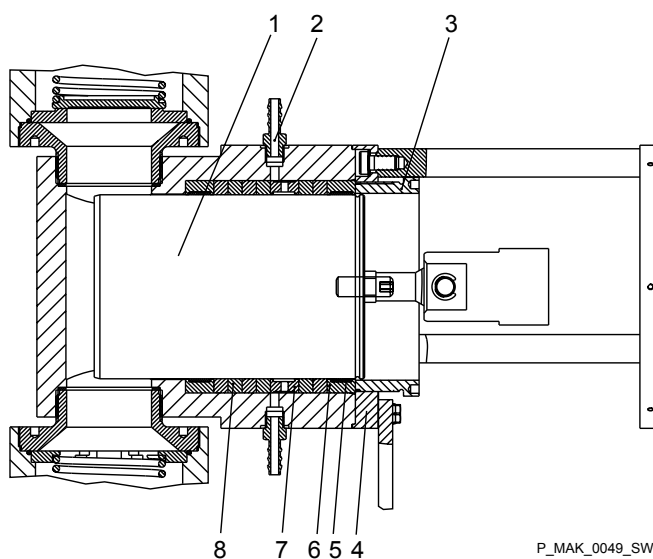

Fig. 20: Cross-section through the liquid end
1. Loosen the tensioning screw (3) using the face spanner and remove - see Fig. 20.
2. Loosen the dosing head flange (4) screws and remove the dosing head flange.
3. ➤ Remove the piston (1)
1. ➞ Align the holes of the swivel head and fork head - see Fig. 20.